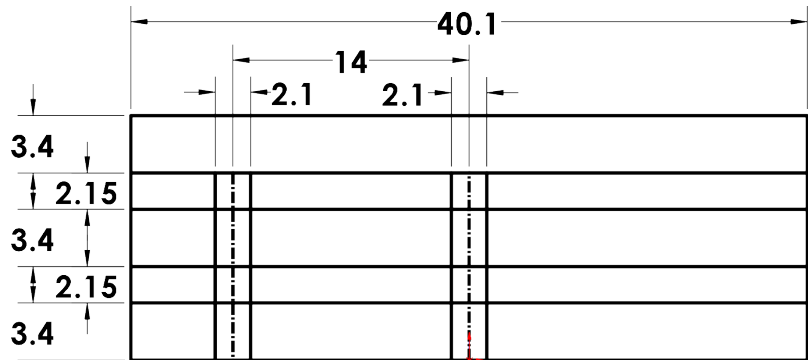

Fig. 9
Step 15. Click **Smart Dimension**  (S) on the Sketch toolbar.
Step 16. Add dimensions, **Fig. 9**.